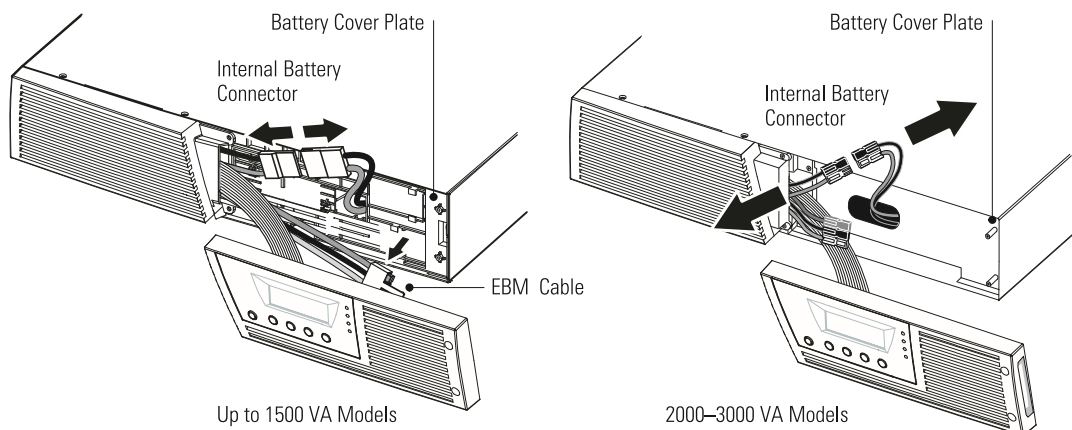
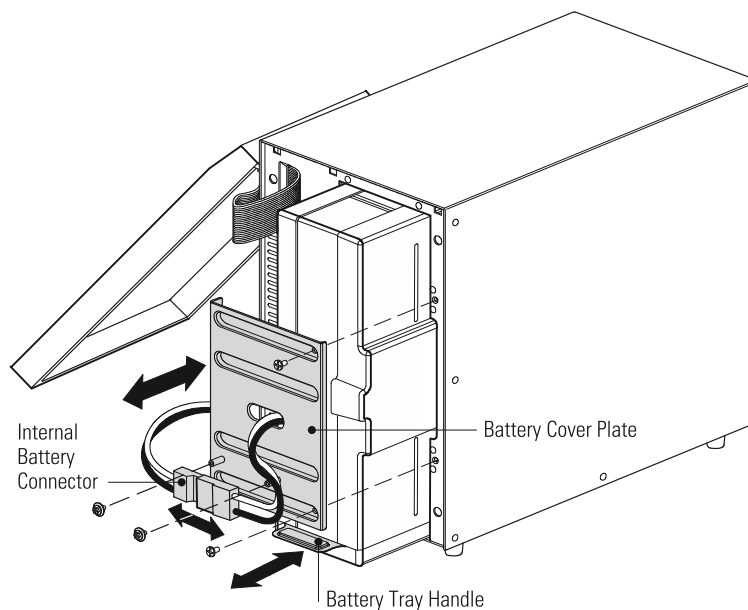

Figure 24. Disconnecting the UPS Internal Batteries (Shown without EBMs)
Figure 26. Replacing the UPS Internal Batteries
If the UPS requires any type of transportation, verify that the UPS is unplugged and turned off and then disconnect the UPS internal battery connector (see Figure 24 on page 49 for rackmount models or Figure 26 on page 51 for tower models).
2. Disconnect the internal battery connector (see Figure 24).
3. **Up to 1500 VA models only.** If the EBM cable is not connected to an EBM, unclip the EBM cable and move it to the left out of the way (see Figure 24).
4. Grasp an edge of the battery cover plate and pull it forward gently. Remove and retain the battery cover plate. See Figure 24 for the location of the battery cover plate.
9. **Up to 1500 VA models only.** If the EBM cable is not connected to an EBM, clip the EBM cable back into its holder on the battery cover plate. See Figure 24.
2. Remove and retain the two screws holding the internal battery connector. Disconnect the internal battery connector. See Figure 26.